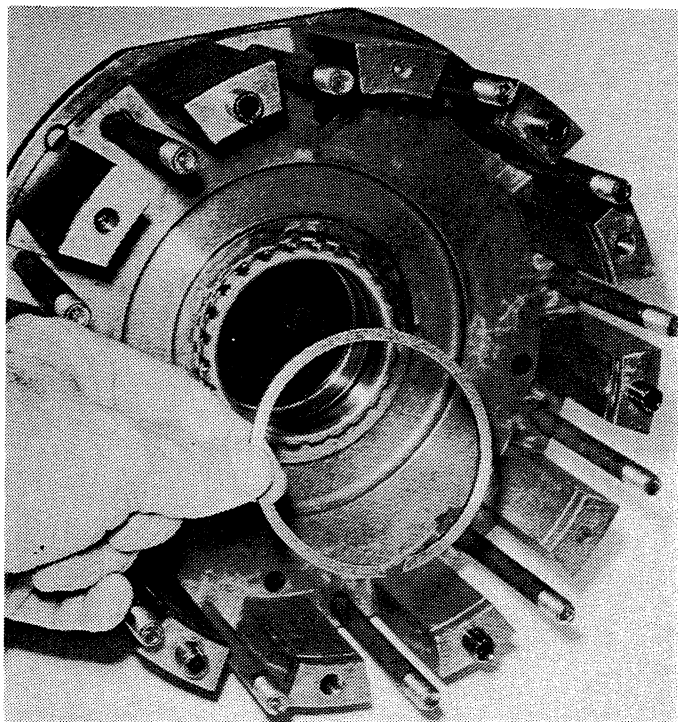

Figure 6-40. Selective Retaining Ring Removed.
5. Remove selective retainer ring from rear of input pinion. See Figure 6-40.